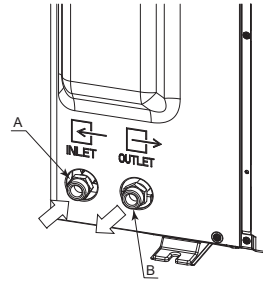

Fig. 6-1
6.1. Water piping connection (Fig. 6-1)
- Inlet and outlet pipes position is shown on the Fig. 6-1.
[Fig. 6-1]